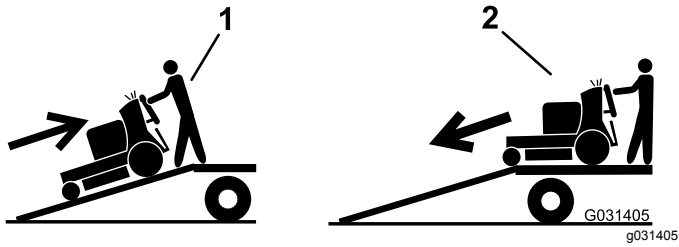

Figure 54
5. Back the machine up the ramp (Figure 54).